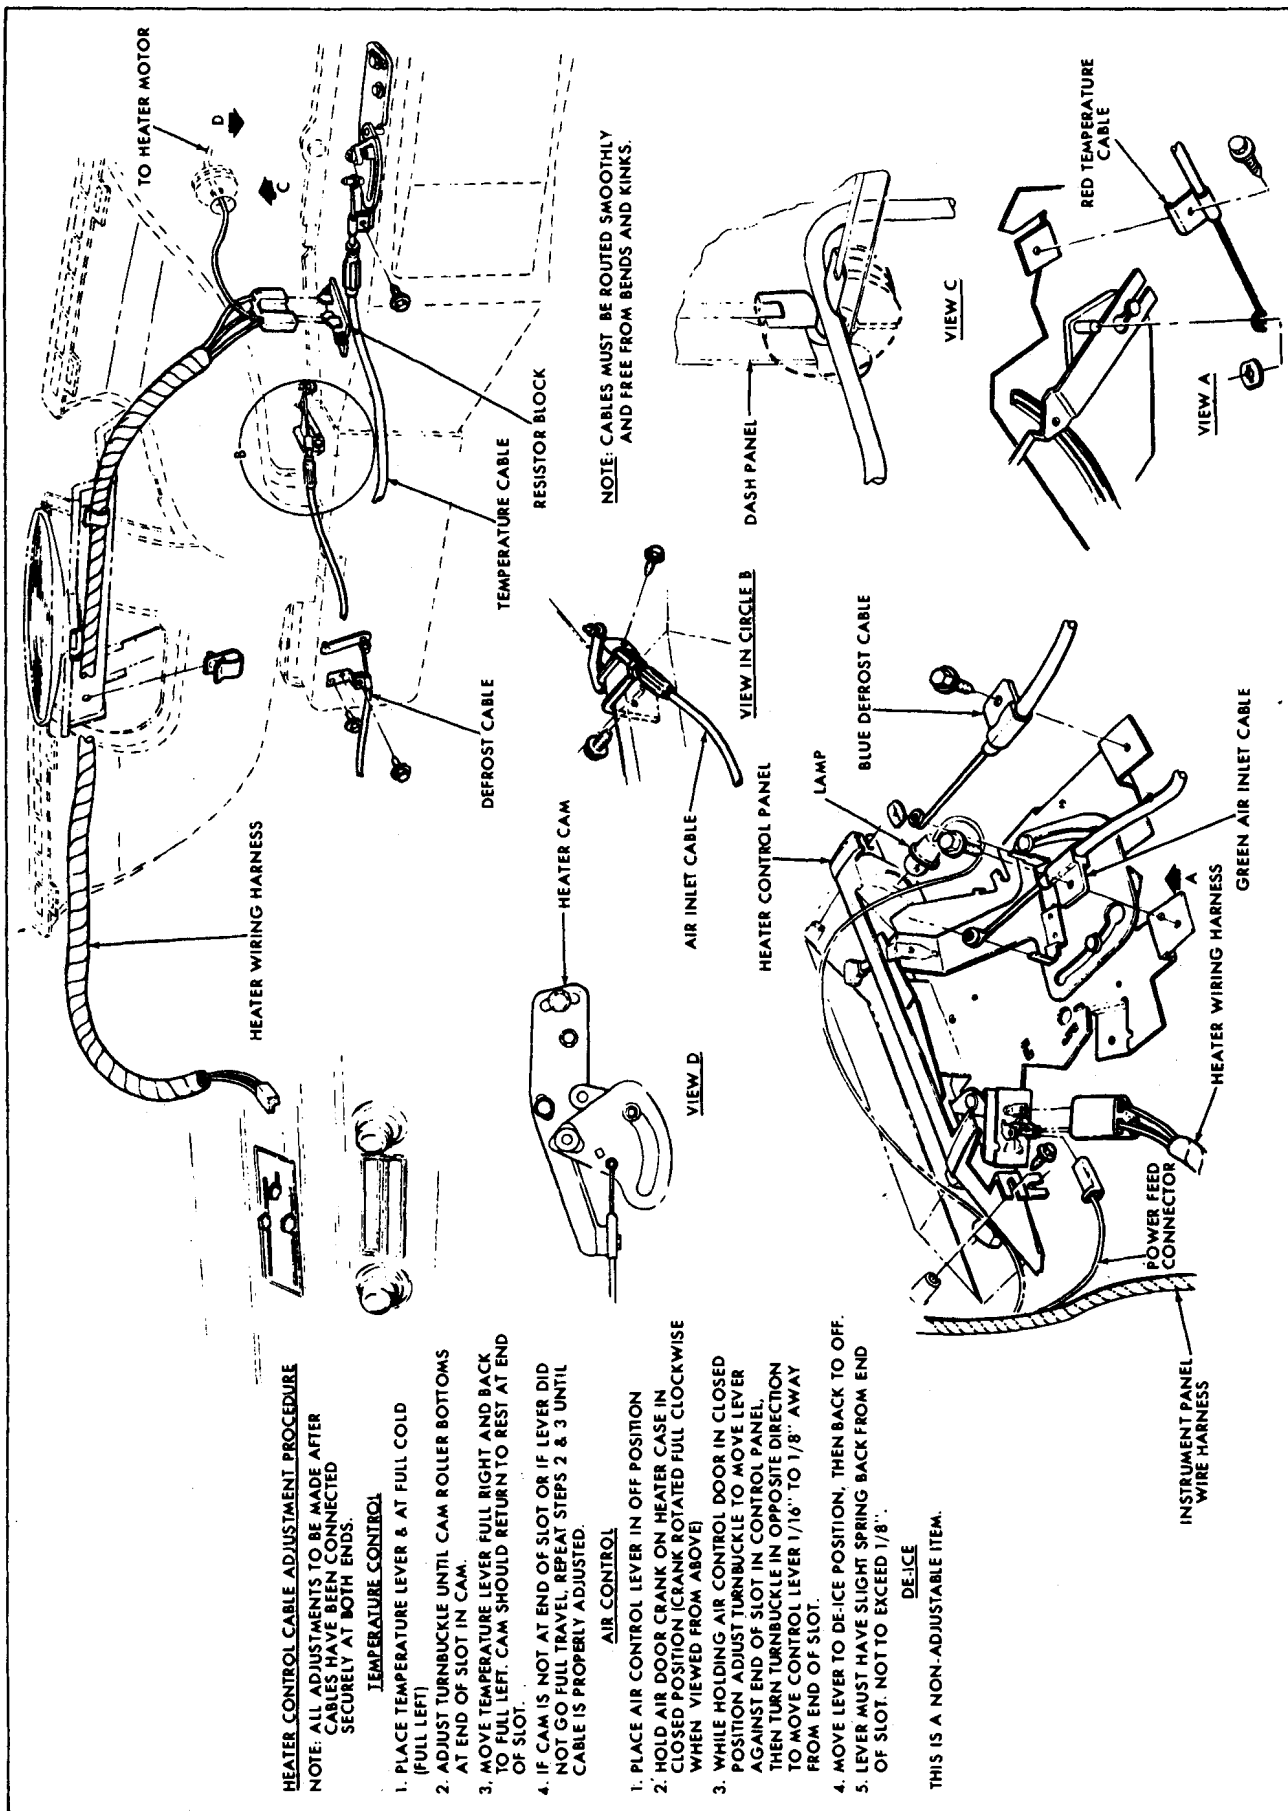
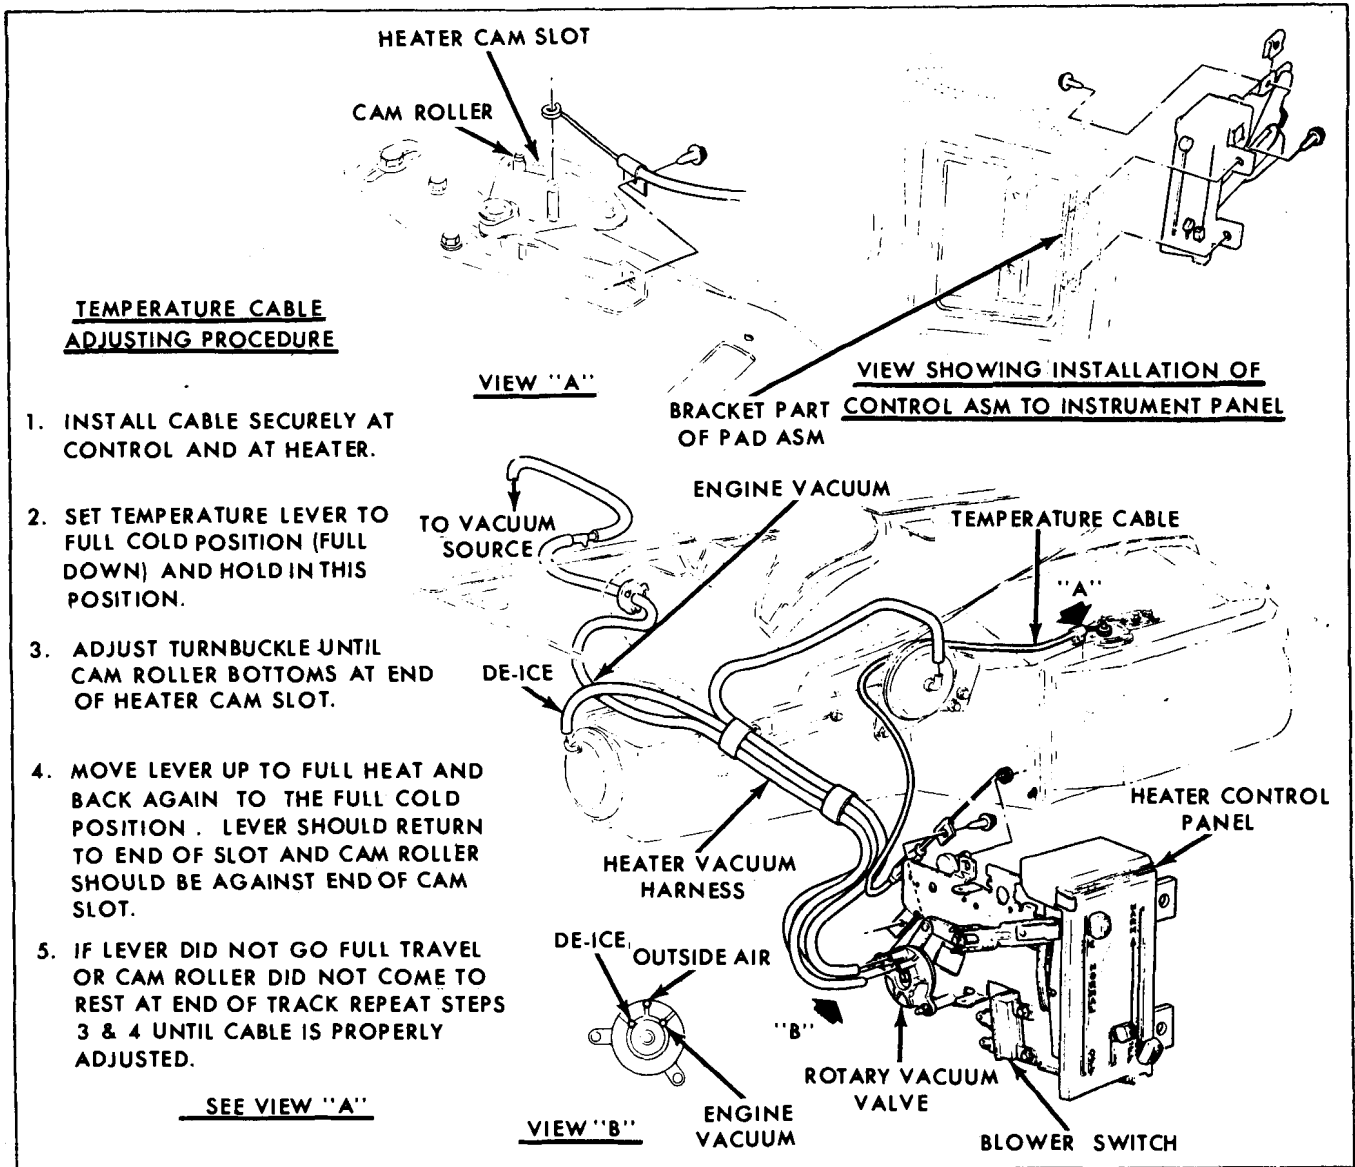
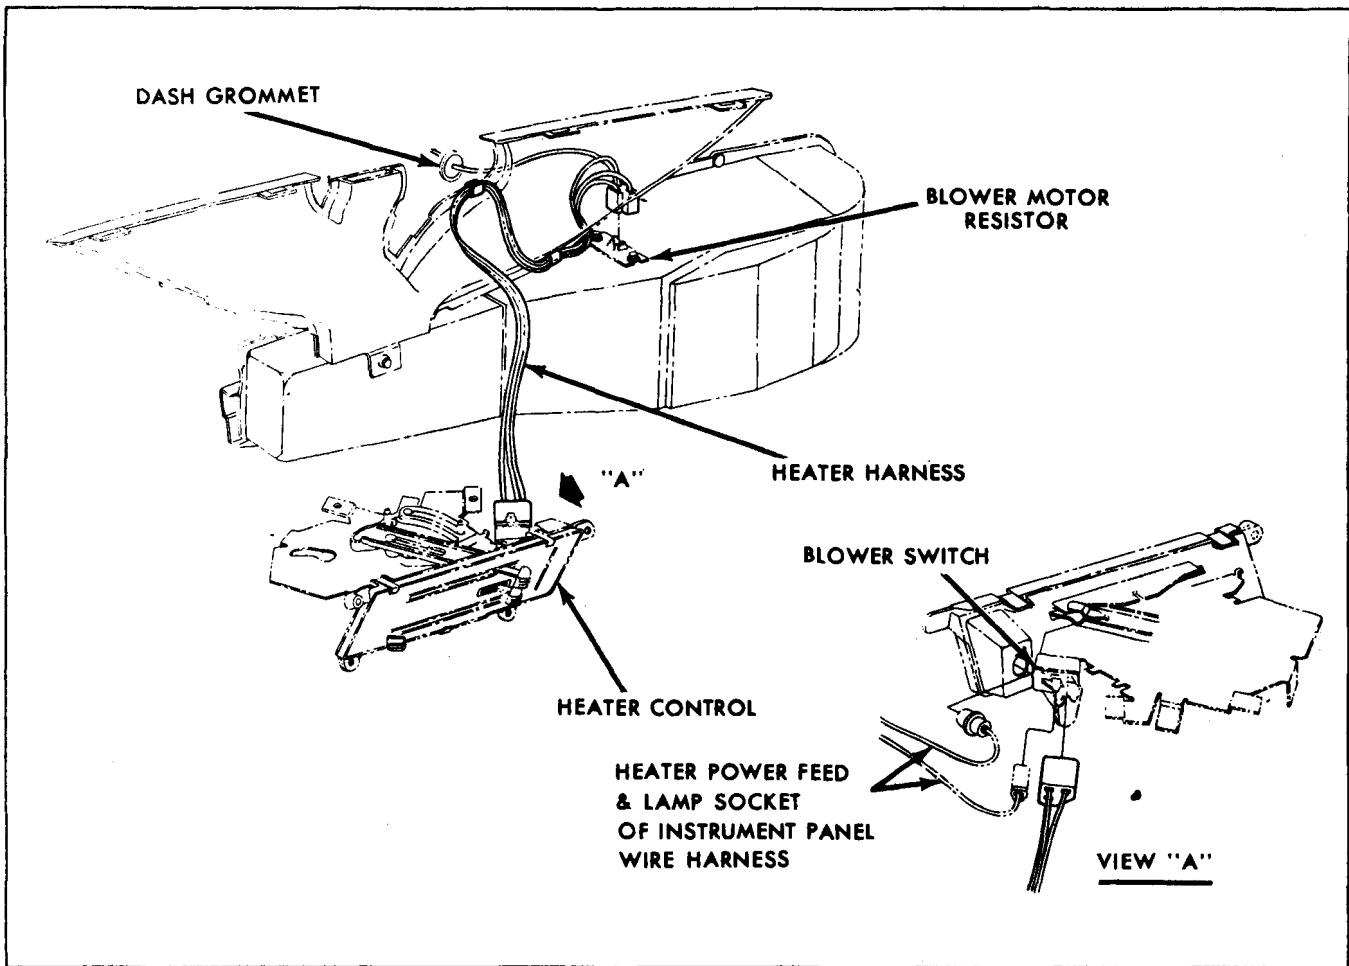

Fig. 1-1 Pontiac-Heater Cable and Wire Routing
Fig. 1-2 Grand Prix-Heater Cable and Vacuum Hose Routing
Fig. 1-5 Tempest, Firebird and Grand Prix-Typical Heater Harness
3. Adjust turnbuckle until cam roller bottoms at end of heater cam slot (Fig. 1-1 Pontiac or Fig 1-2 Grand Prix).
1. Remove wire connector at blower motor, dash grommet, and feed through dash opening. For installation drawing, see Fig. 1-1 for Pontiac and Fig. 1-5 for typical Tempest, Firebird and Grand Prix. Make sure grommet is in place and resealed.
1. Remove vacuum supply hose from diaphragm (Fig. 1-2).